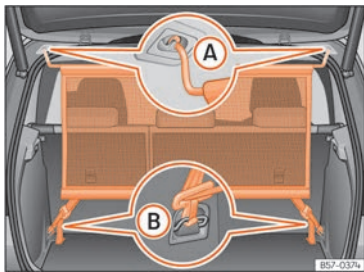

Fig. 127 Net partition fitted.
- Secure the net partition in the left housing of the roof »» **Fig. 127 (A)**. Make sure to move the cross rod down beyond the upper position.
- Hook in the net partition on the rear right-hand side roof housing by pressing on the rod »» **Fig. 127 (A)**.
- Secure two hooks of the partition net to the fastening rings of the boot »» **Fig. 127 (B)** and tighten the straps firmly.